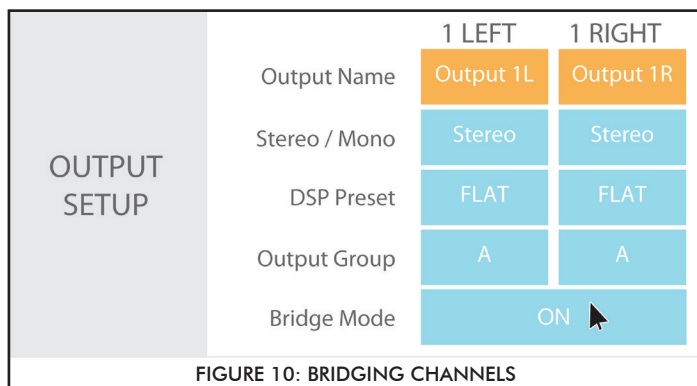

FIGURE 10: BRIDGING CHANNELS
1. Use the left audio input when operating the amplifiers output in bridged mode (see figure 10).
2. Select ON in the bridge mode (see figure 10).